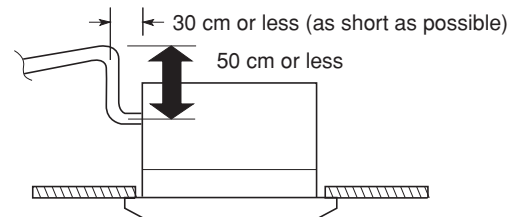

Fig. 3-28
- If it is necessary to increase the height of the drain pipe, the section directly after the connection port can be raised a maximum of 50 cm. Do not raise it any higher than 50 cm, as this could result in water leaks. (Fig. 3-28)